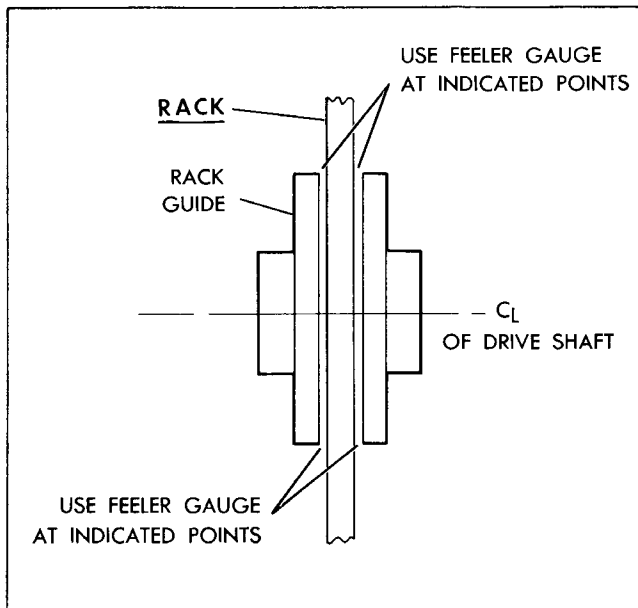

Figure 1-3. Checking Rack Alignment in Rack Guide
- c. The feed line must be adjusted to accommodate dies of different heights, permitting the stock to move in a straight line through the feed rolls and over the die. When adjusting the feed line height, be certain the scrap cutter connecting rod (A)* is adjusted to the appropriate length. If eccentric-type roll lifters, which are operated by a connecting rod from the press crankshaft, are supplied with the roll feed, their connecting rod must be adjusted to the required length also.
- d. Replace the drive disc face on the disc hub, assemble the rack to the slider block (B), and check the alignment of the rack in the rack guide as shown in Figure 1-3. Use a feeler gauge at each end of each side of the rack to align the rack with equal clearance on top and bottom. In setting up roll feeds whose drive discs are secured by retainer plates, it may be necessary to shift the bolster plate slightly to obtain correct alignment of the drive rack. If this is done, pin the bolster plate to the bed of the press with dowels to maintain the alignment.